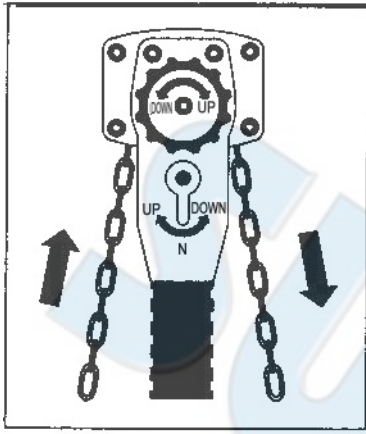

FIGURE 4
- (a) Set change lever in central position then adjust chain freely by hand in either direction, UP or DOWN. (FIGURE 4)